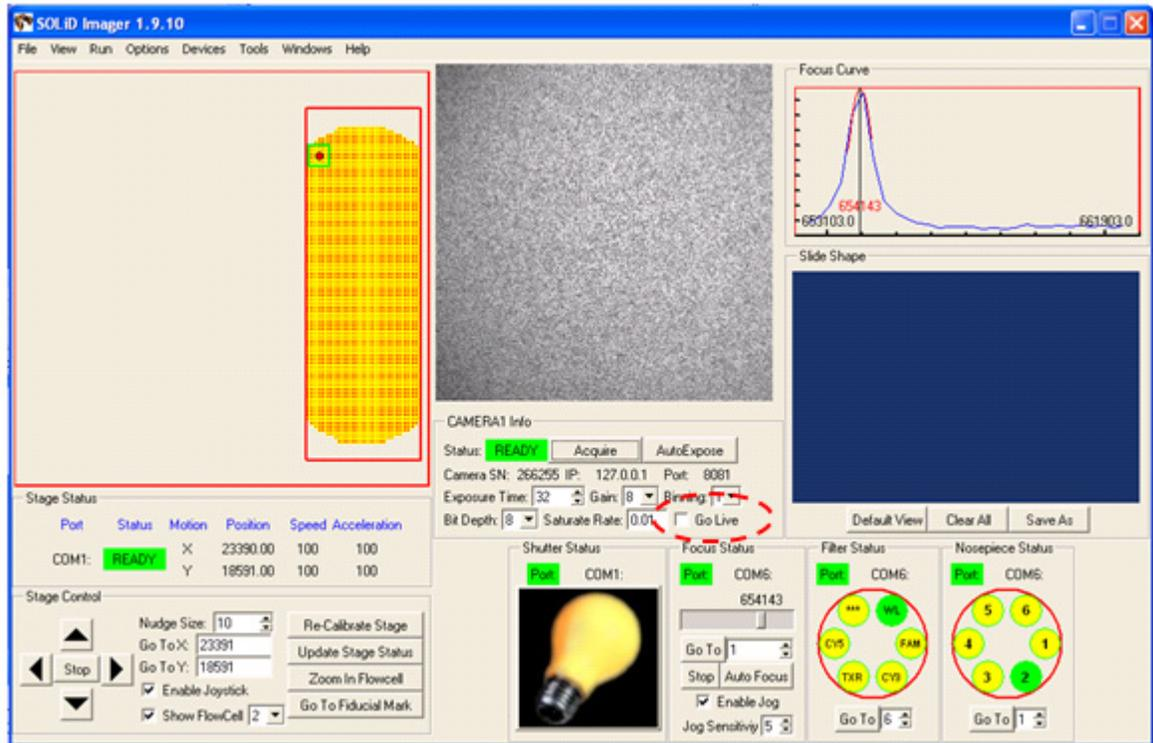

Figure 75 Check **Go Live** to manually find the focal range.
5. Check the **Go Live** check box in the Imager window. By checking the **Go Live** check box, a live image of the flowcell displays. You can use this image to manually find the focal range (see Figure 75 on page 111).